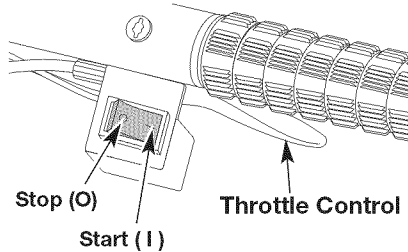

Fig. 6
**NOTE:** There is no need to turn the unit on. The On/Off Stop Control is in the ON (I) position at all times (Fig. 6).
2. Press and hold On/Off Stop Control in the OFF (O) position until engine comes to a complete stop (Fig. 6).